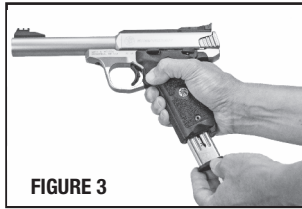

FIGURE 3
- Check for yourself to ensure that the firearm is unloaded. To do this, grasp the pistol with your finger off the trigger and outside the trigger guard, point the pistol in a safe direction, depress the magazine release and remove the magazine (FIGURE 3).